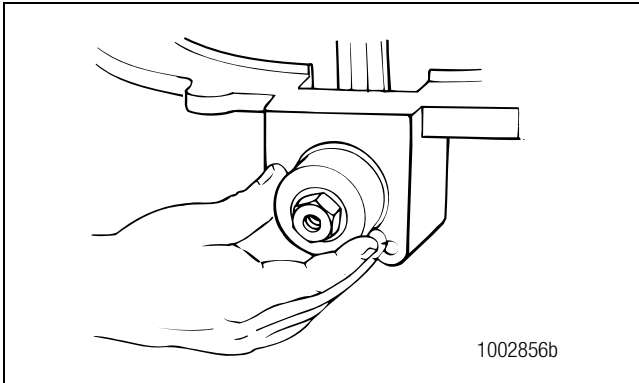

Figure 6.21
8. Turn the shift cylinder and piston assembly to the right until it bottoms in the carrier casting bore. Figure 6.21.